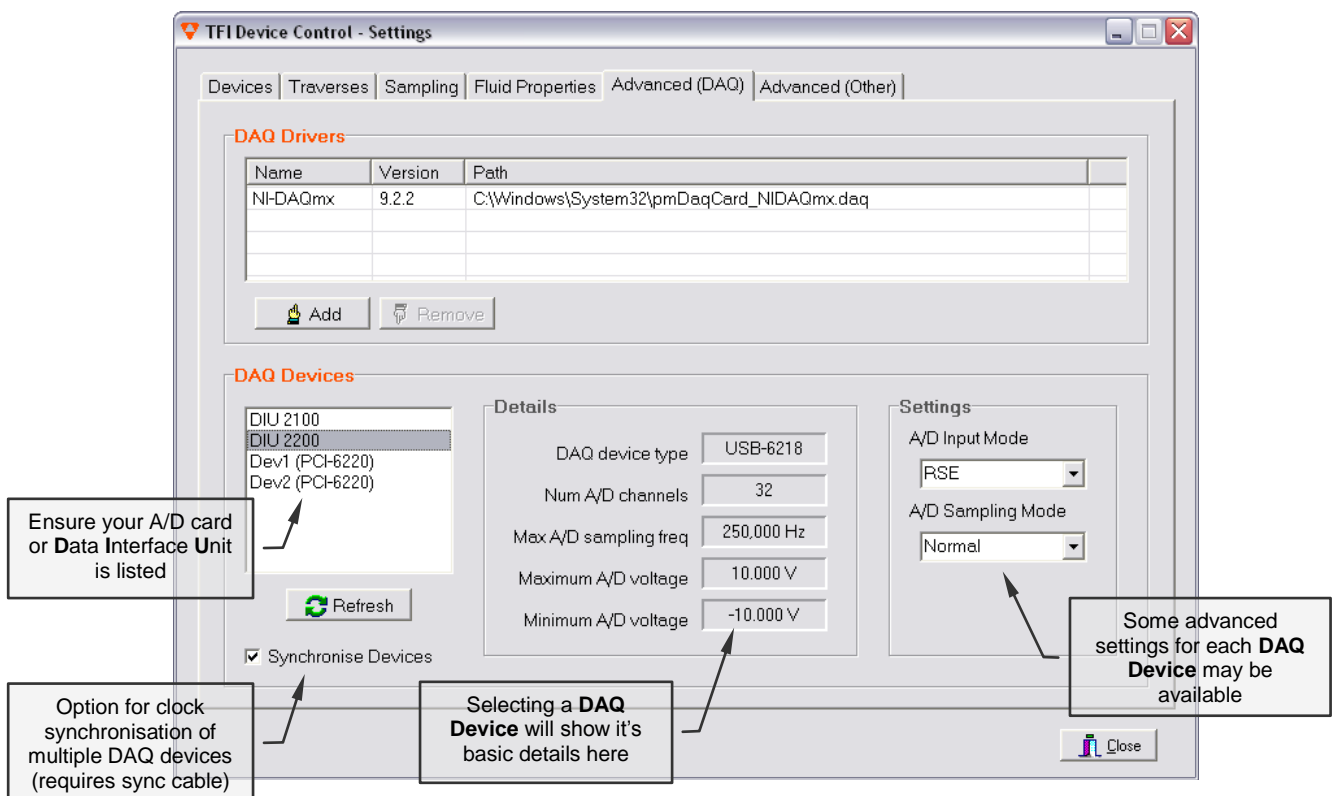

Figure 6: Software configuration – Checking the data acquisition details
- Select **Advanced (DAQ)** from the **Settings** menu, then refer to Figure 6
- i** For DAQ devices that use a common input voltage range for all channels (e.g. some Data Translations A/D cards) it will also be necessary to choose the appropriate input voltage range on the **Advanced DAQ** tab (this is not shown above in Figure 6 but will appear if such a DAQ device is selected).
- i** For cards that use a common input voltage range for all channels, a note will pop up that the **A/D Input Range** is set on the **Advanced (DAQ)** tab (see Figure 6).